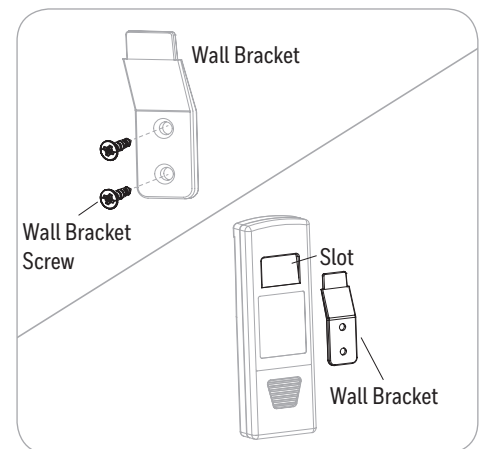

Figure 5.9
9. (Optional) If you wish to install the wall bracket for the remote, insert the two screws through the wall bracket and into the wall. Once the wall bracket is installed, hang the slot in the back of the remote over the top of the wall bracket (Figure 5.9). Turn on power to fan at breaker box and the wall switch. Assembly is complete.